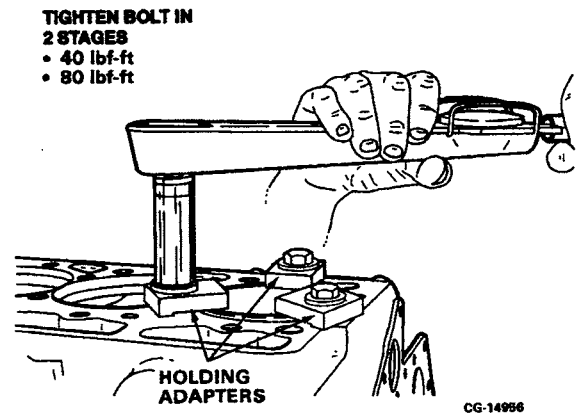

Figure 6.48. Tighten Holding Adapters
- c. Install the sleeve into its bore and install the holding adapters as shown in Figure 6.48. Fasten the holding adapters using grade 8 bolts and hardened washers. Tighten the bolts in two stages as follows: